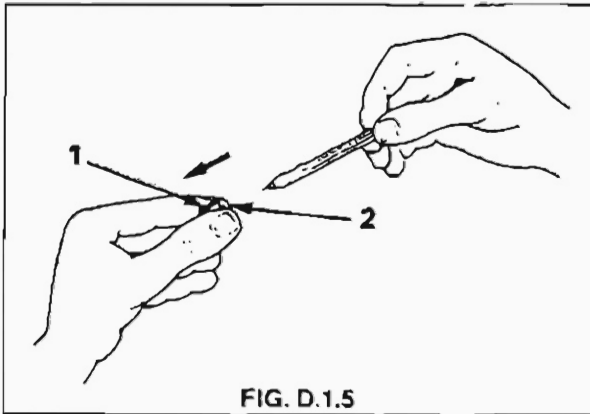

FIG. D.1.5
5. Removing the rubber bush and washer from the firing pin by pulling them out by hand in the direction of the firing pin point. See Fig. D.1.5.